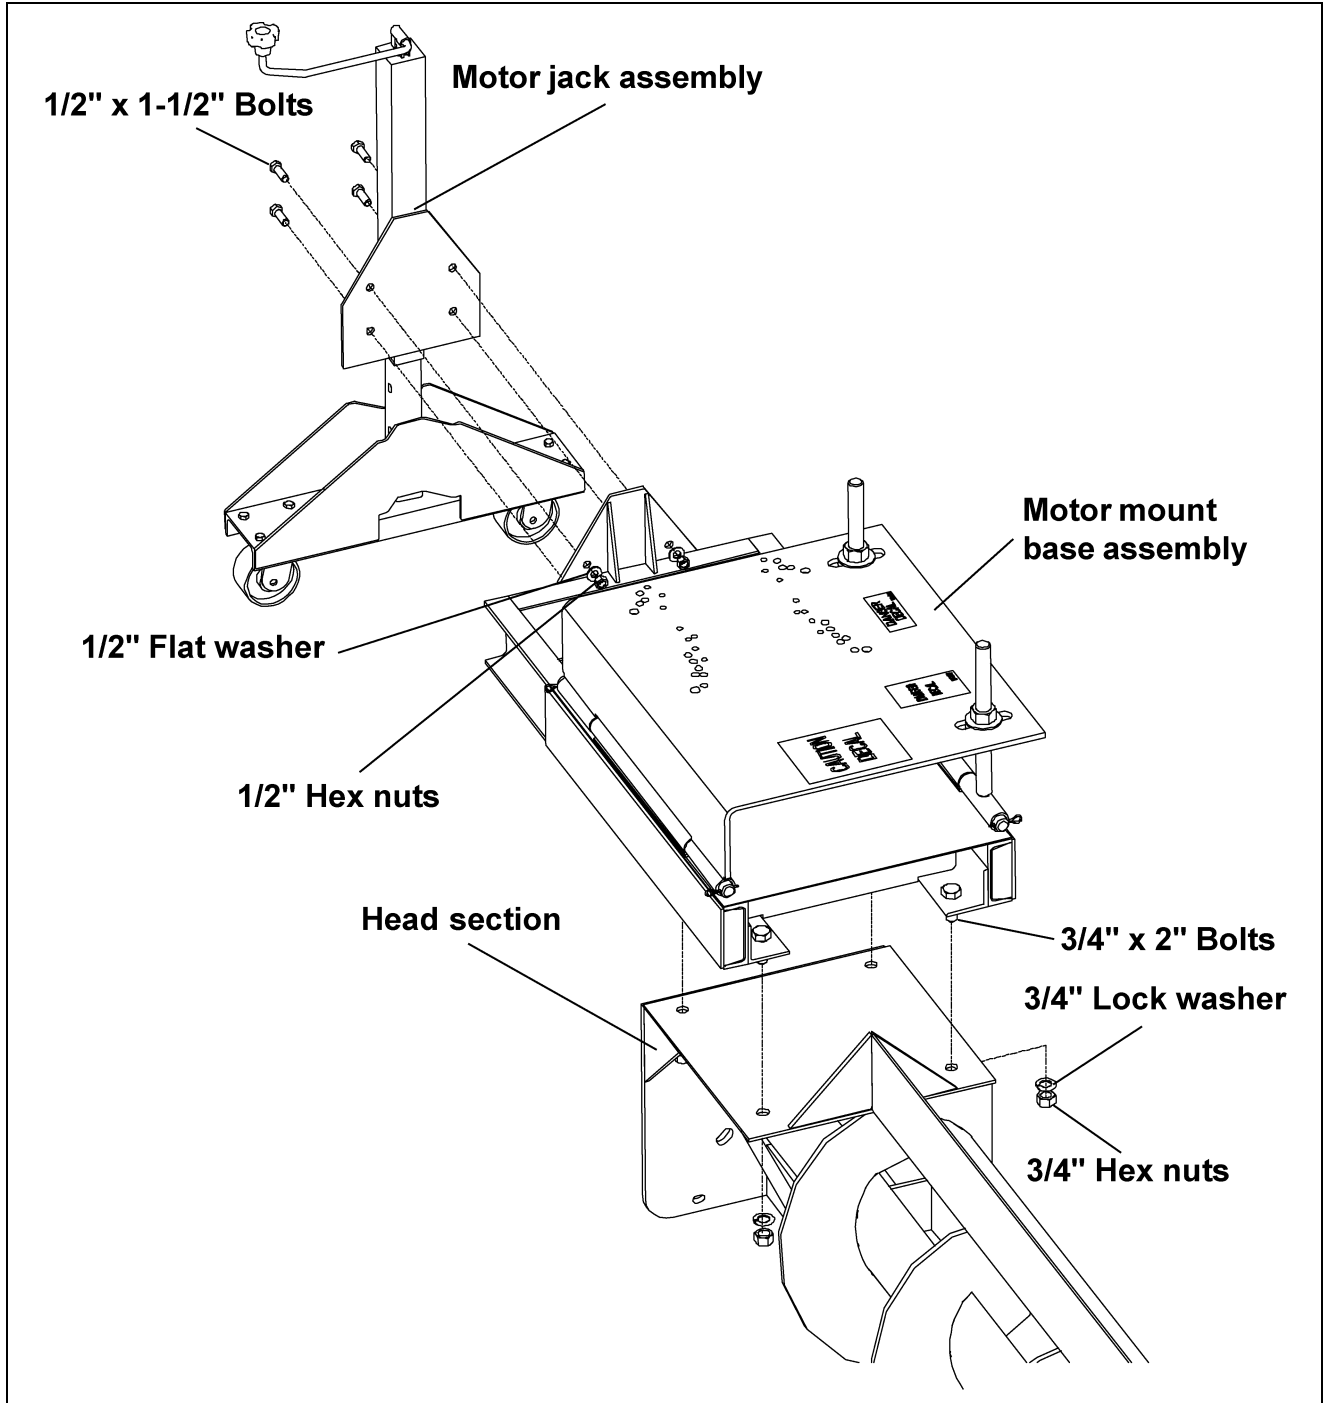

Figure 5V
- A. Attach the Motor Mount Base Assembly to the Head Section using four (4) 3/4" x 2" bolts, lock washers and hex nuts. (See Figure 5V.)
- B. Attach the Motor Jack Assembly to the Motor Mount Base Assembly using four (4) 1/2"-13 x 1-1/2" bolts, 1/2" flat washers and 1/2" hex nuts.